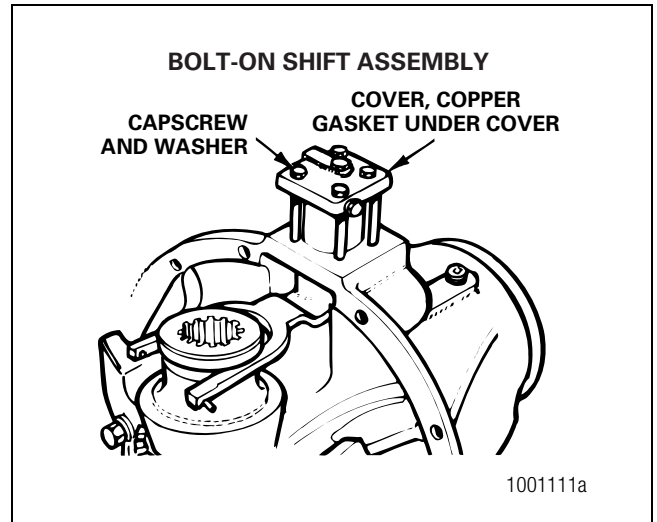

Figure 6.5
- B. Remove the four capscREWS and washers that hold the cylinder cover to the carrier. Remove the cylinder cover and copper gasket. Figure 6.5.